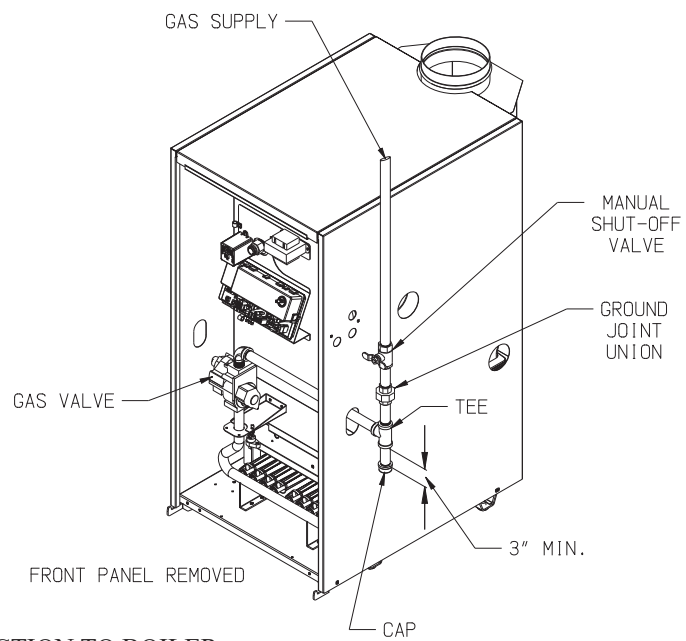

FIGURE 8.1: GAS CONNECTION TO BOILER
- 1) Relief valve (Required) - Mount the relief valve on the left side of the boiler as shown in Figure 8.1 using the 1-1/4 x 4 nipple, 1-1/4 x 3/4 reducing elbow and 3/4 x close nipple provided. The relief valve shipped with the boiler is set to open at 30 psi. This valve may be replaced with one having a pressure up to the “Maximum Allowable Working Pressure” shown on the rating plate. If the valve is replaced, the replacement must have a relief capacity in excess of the DOE heating capacity for the boiler.
- c) Install sediment trap, ground-joint union and manual shut-off valve upstream of boiler gas control valve. See Figure 8.1.